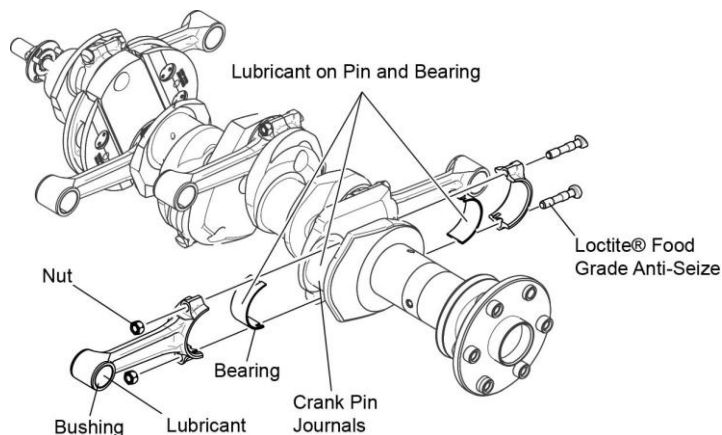

Figure 13
2. Apply specified lubricant to the connecting rod and bearing inserts (per the latest revision of Service Instruction No. SI-1059) where shown in Figure 13. Different lubricants are used on the various areas on the connecting rod and bearing surfaces.
8. Apply Loctite® Food-Grade Anti-Seize Lubricant or equivalent to the bottom two or three threads of the new connecting rod bolts (Figure 13). Wipe away excess lubricant with a clean, lint-free cloth.